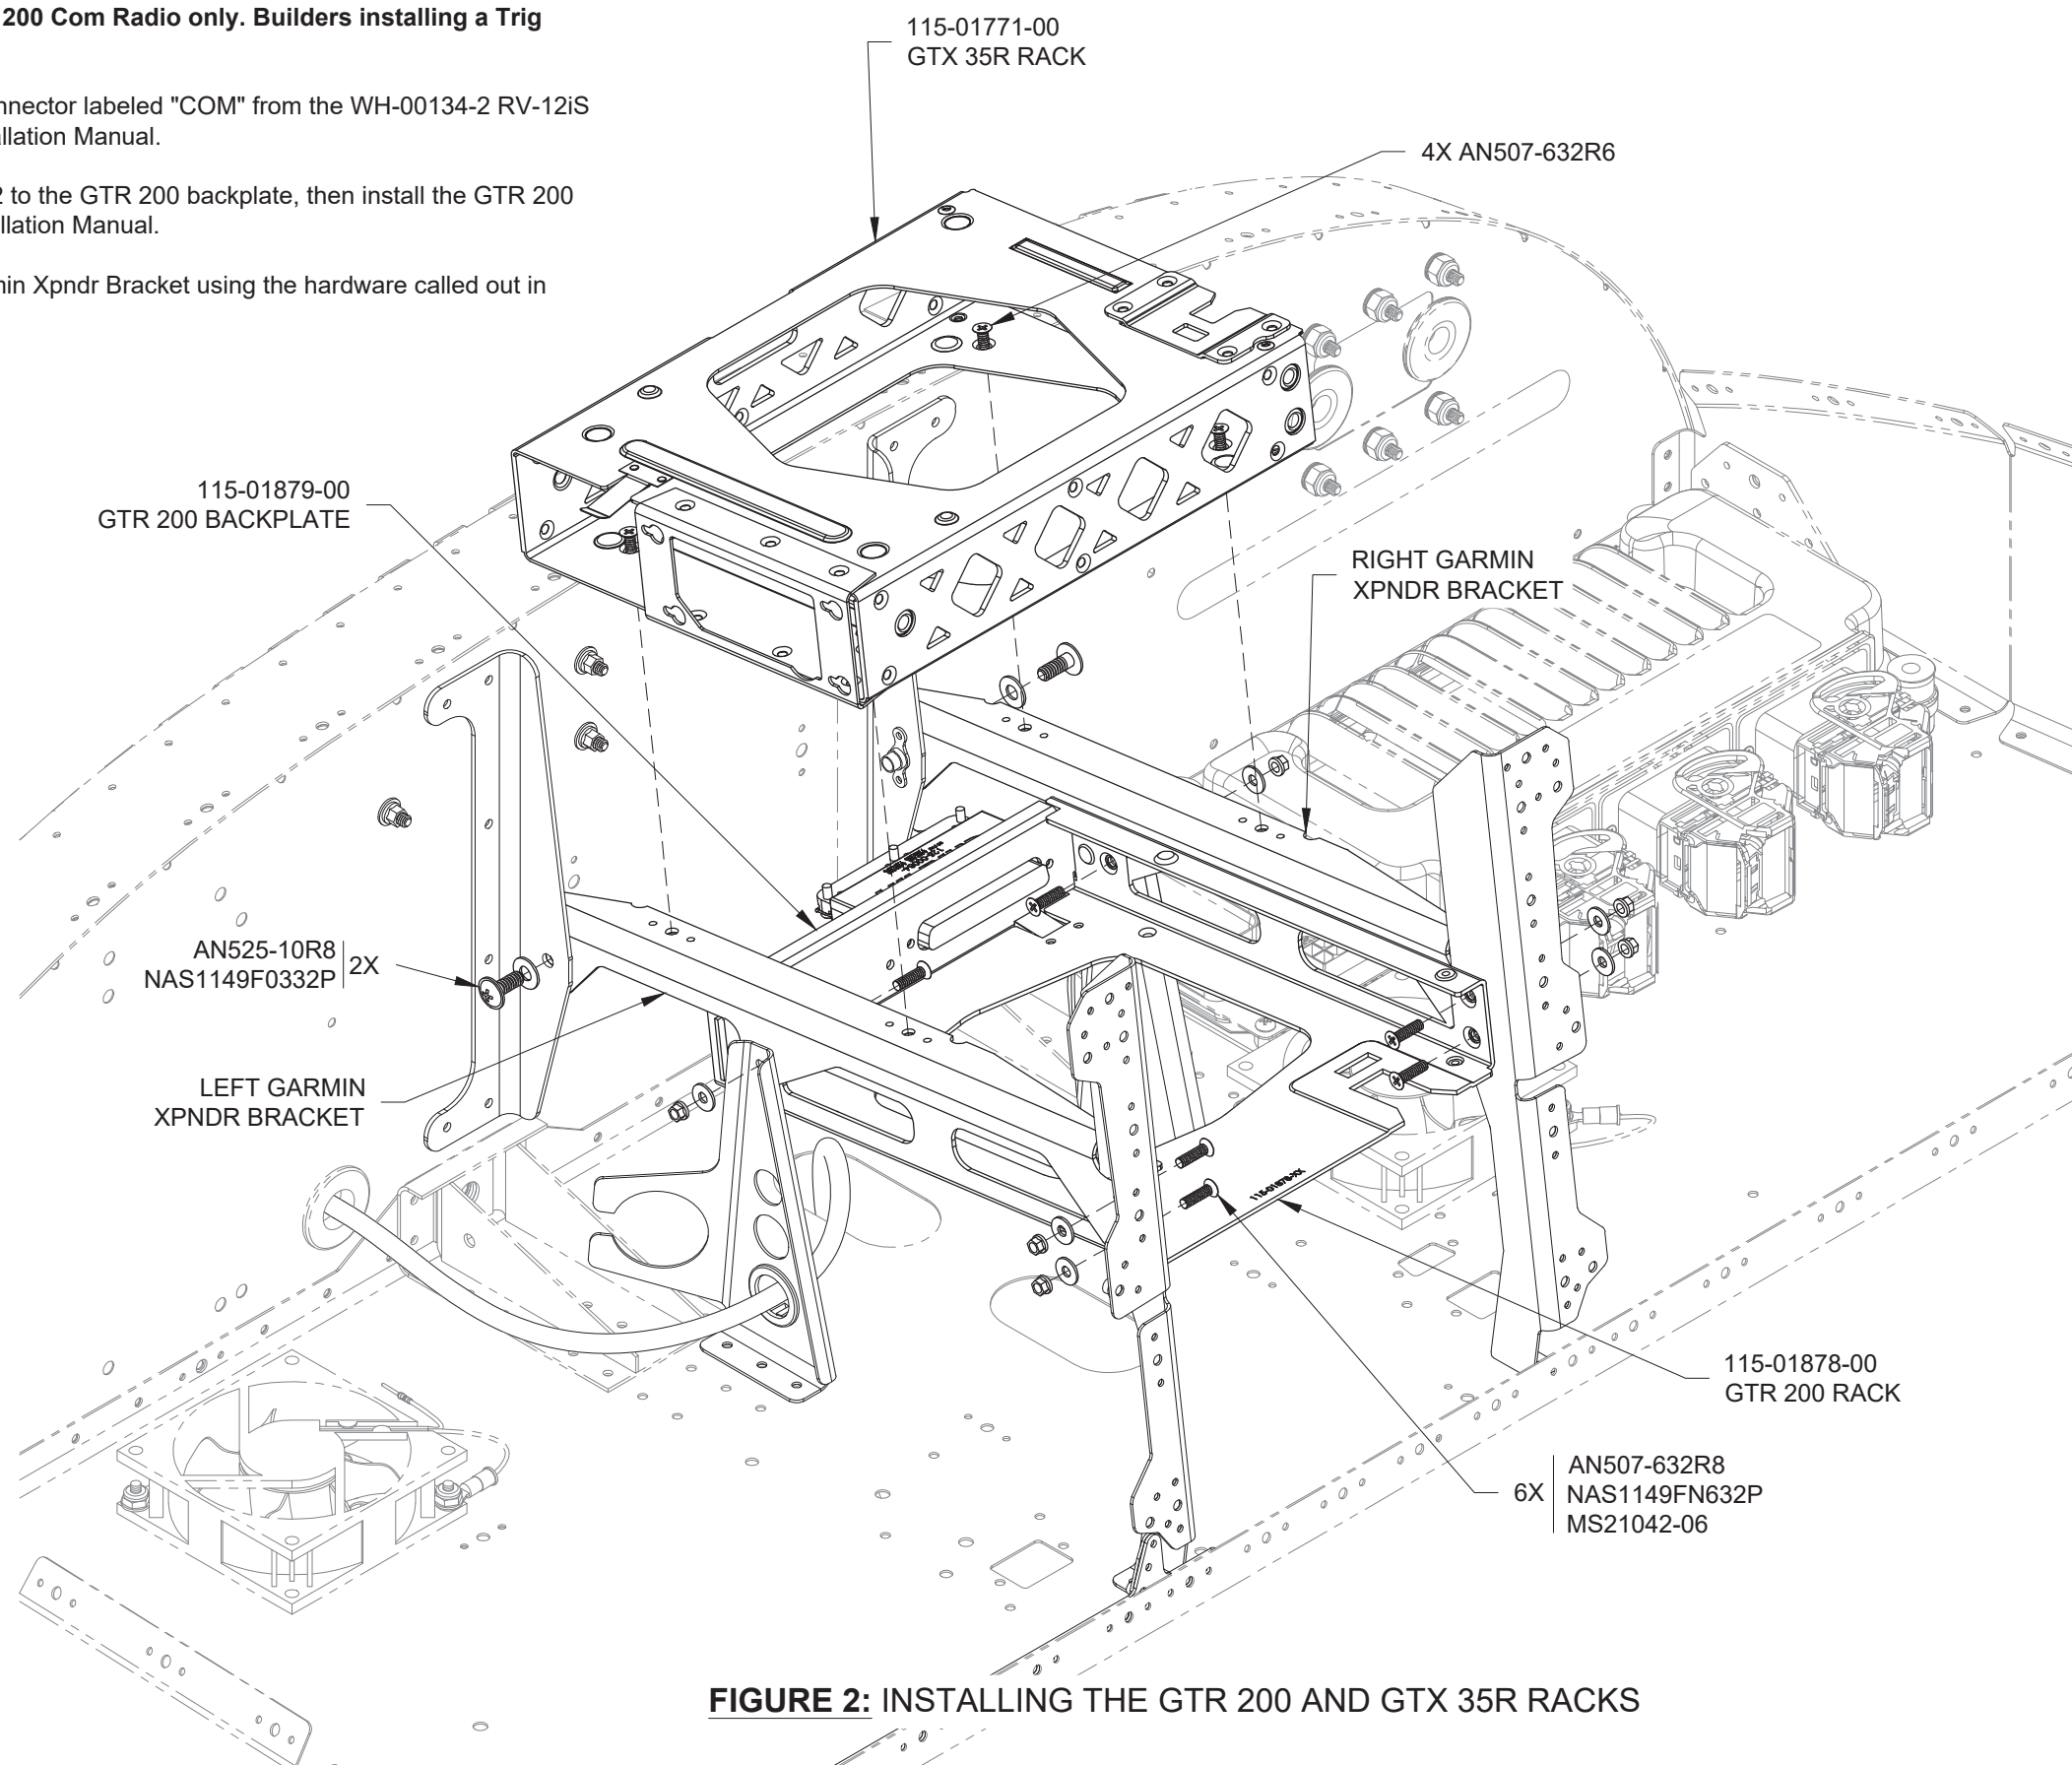

FIGURE 2: INSTALLING THE GTR 200 AND GTX 35R RACKS
Step 3: Install the GTR 200 Rack, Left Garmin Xpndr Bracket, and Right Garmin Xpndr Bracket using the hardware called out in Figure 2.
Step 4: Install the 115-01771-00 GTX 35R Rack as shown in Figure 2.